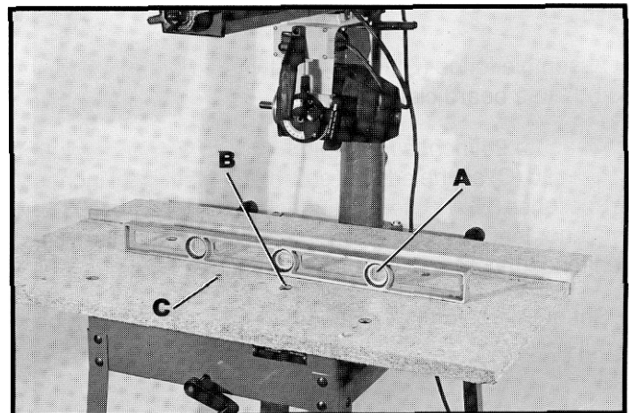

Fig. 50
1. Place the straight edge (A) on the table as shown in Fig. 50, to determine if an adjustment is necessary.
2. If the table is high, tighten 1/4-20 x 1 1/2" round head machine screw (B) Fig. 50.
3. If the table is low, tighten 1/4-20 x 1 1/4" slotted set screw (C) Fig. 50.
4. Once the table is flat, snug up the two screws (C) and (B) Fig. 50.